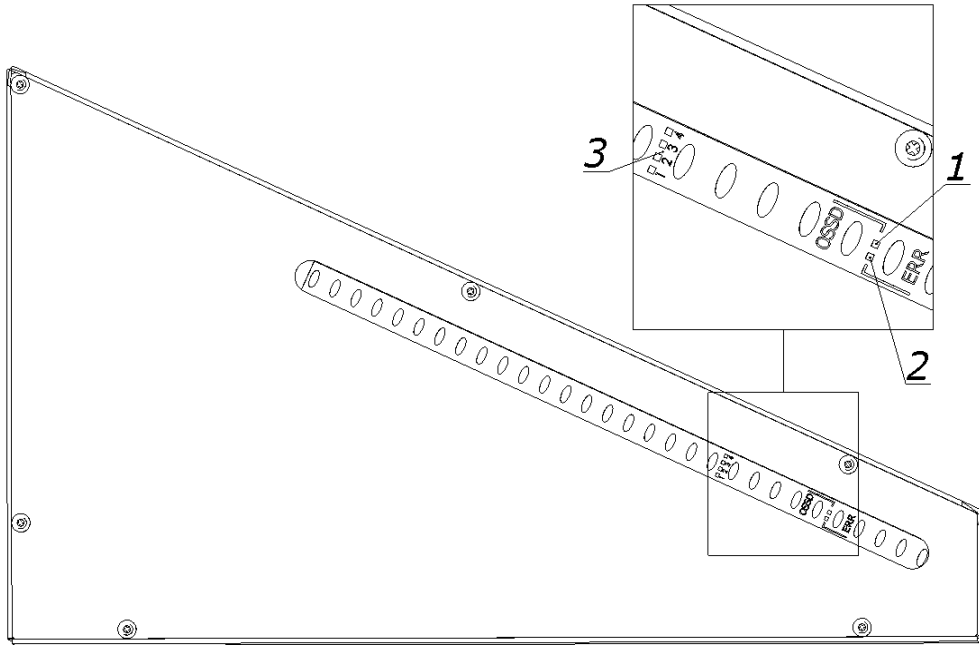
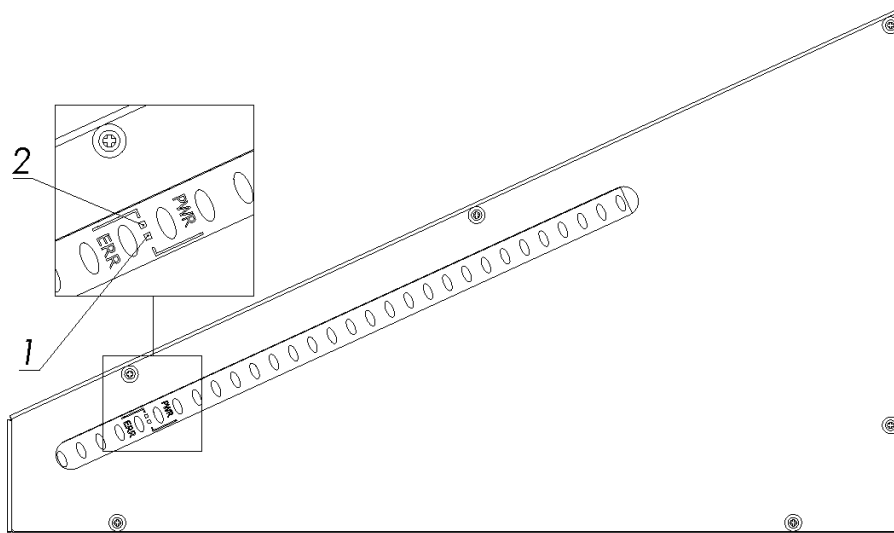
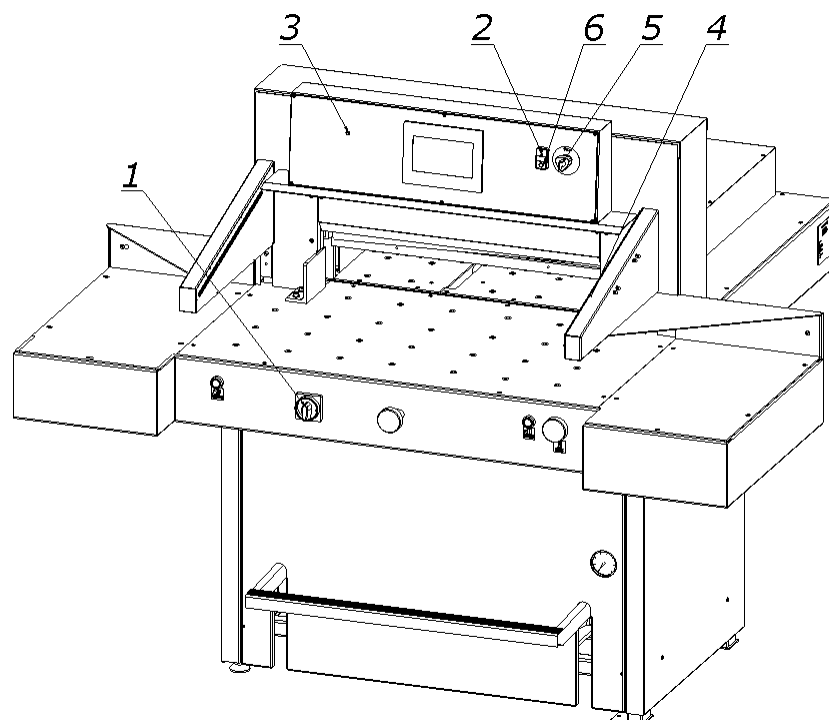
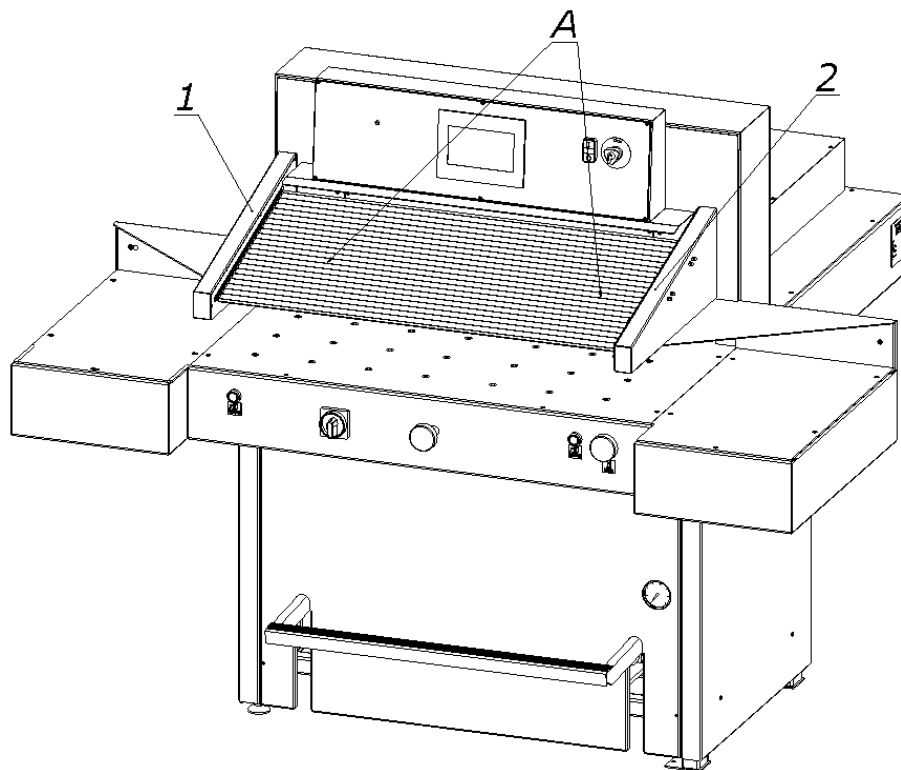

Figure 11. Receiver indicators
Figure 12. Transmitter indicators
Figure 15. Arrangement of the elements used when starting the cutter.
Figure 16. Light curtain
- the green OSSD 1 LED lights up (Fig.11) in the receiver 4 (Fig.15)
If after turning on the power supply with the main switch 1 (Fig. 15) and pressing the green button 2, the LED 3 is green, the connection is correct (correct direction of rotation), if the LED is red, the connection is not correct and should be replaced in the plug two of three phase conductors.
When the cutter is switched on, the transmitter 1 and receiver 2 are initialized (fig. 16). All transmitter and receiver LEDs will light for a moment. After initialization the receiver indicates the quality of the setting using four blue LEDs 3 (Fig.11). Table 8. The setting indicator extinguishes after a suitable time when the safety light curtain is set (the LED of the device switching the output signal: green item 1 figure 11) and only the PWR LED of transmitter 1 (fig.12) and LED 1 (fig. 11) device for switching the receiver's output signal. In the event of an error on the device, the red LED will light. On the side receiver red error LED - in combination with blue LEDs - indicates the cause of the error.
1. Press the button 5 (Fig. 15)
1. Unlock button 5 (turn it around) (Fig.15)